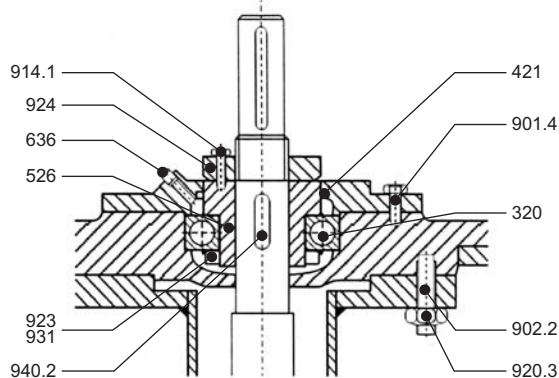

Fig. 11
01. Axial clearance among the impeller (230) and the casing cover (163) should be using the adjustment nut (924). Tight the nut (924) until the impeller touches the casing cover (see fig.11).